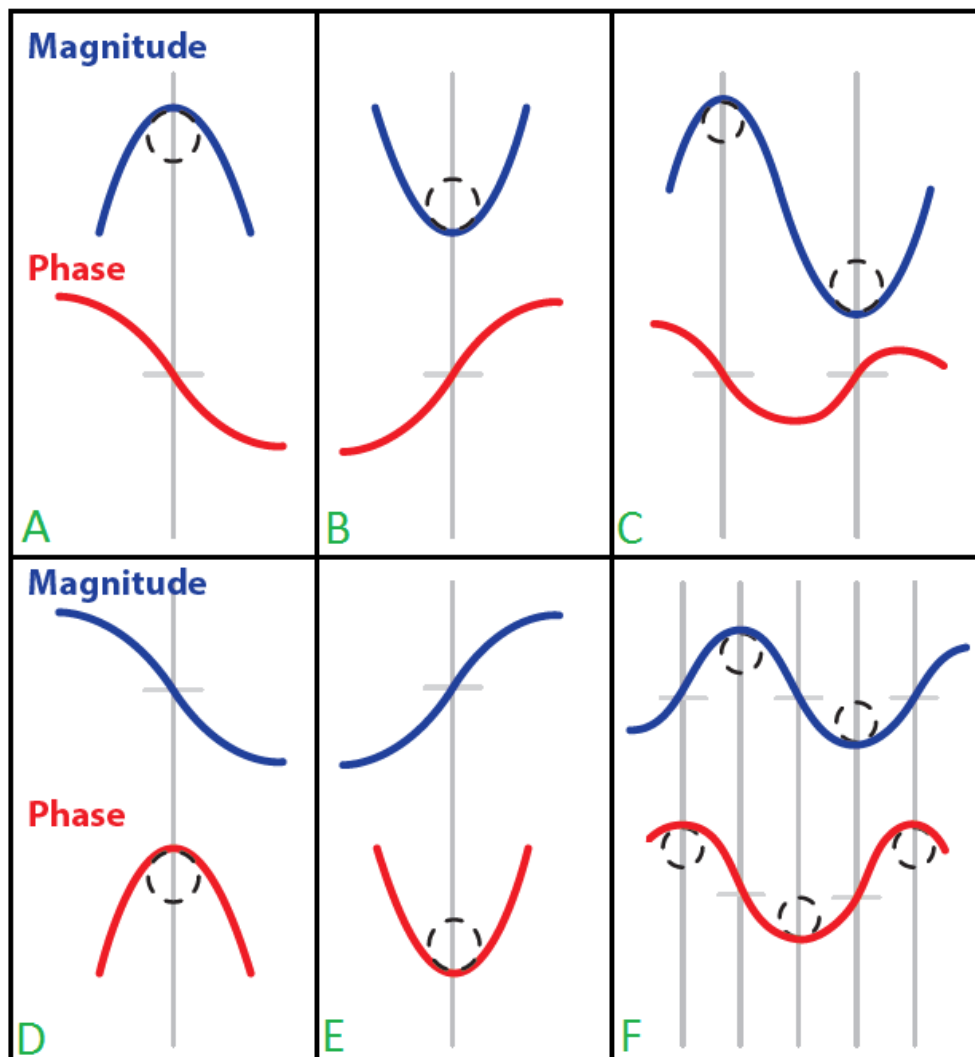
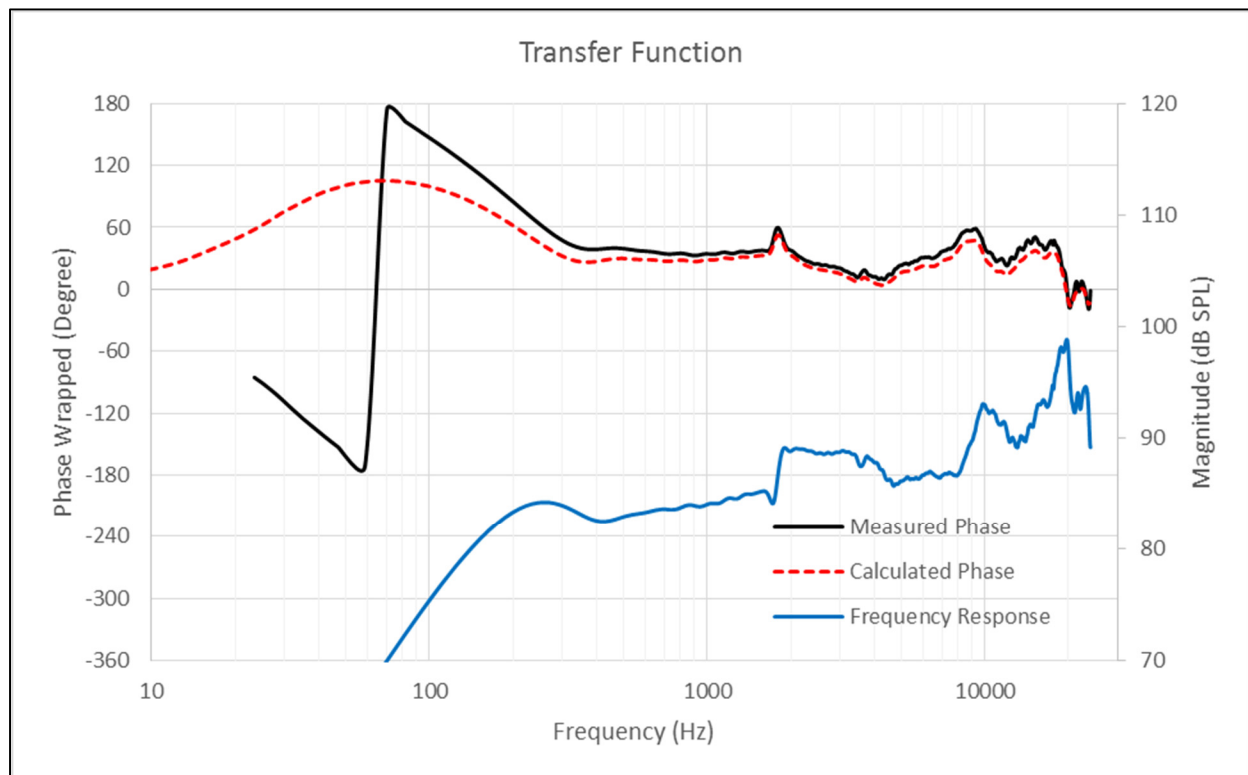
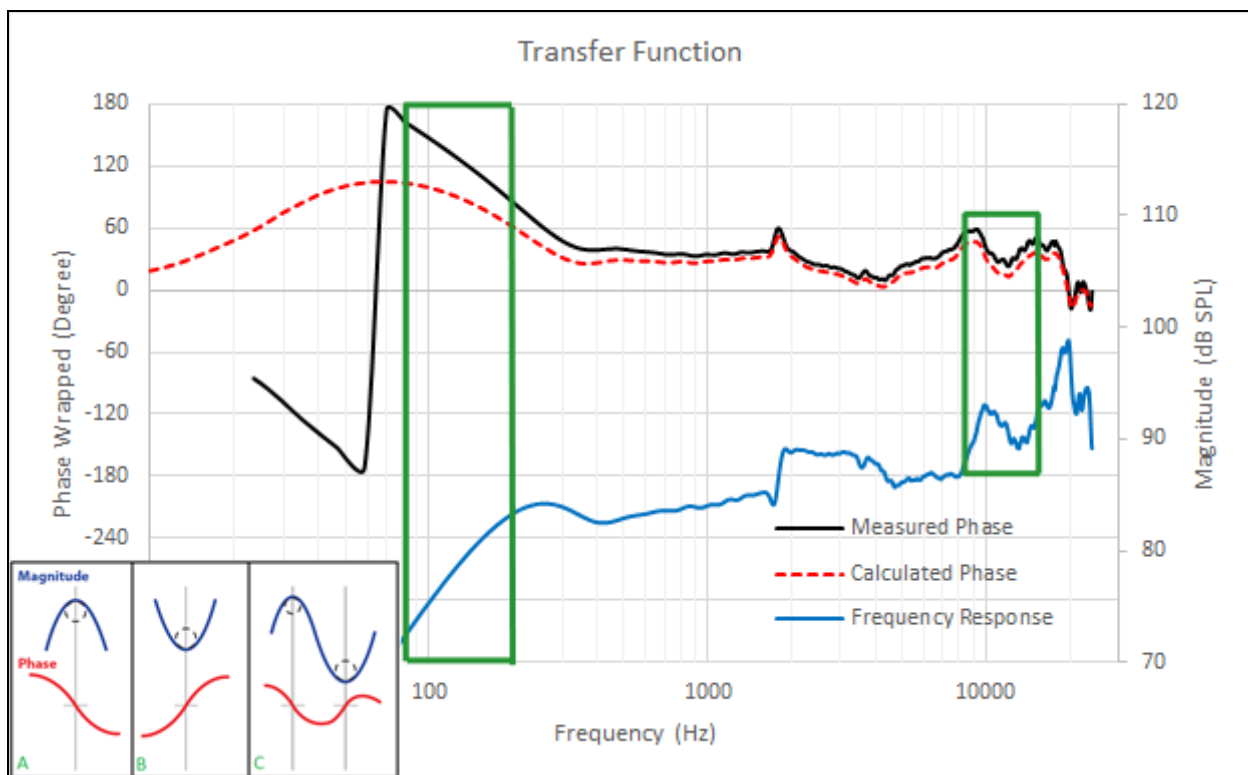

Figure 14
Figure 18
Figure 19
The visual minimum phase relationship between magnitude and phase responses can be seen in figure 14.
A phase response that has positive values can be observed in the next example, figure 18. A 2in woofer in a small closed box is measured at 1m away. The measurement is done without electronic filter and is a minimum phase system.
Several observations from figure 18:
- ✓ Figure 19 points out the minimum phase condition by comparing figure 18 and 14. Please note the two green rectangular areas. Below 200Hz, the frequency response is rising; therefore, the phase response starts positive and goes down as shown in the figure 14 inset, graph A. At high frequencies, e.g. around 10000Hz, the measured frequency response follows graph C in the figure 14 inset. The reader can observe how the phase responses match between measured, calculated and graph C in the figure 14 inset.